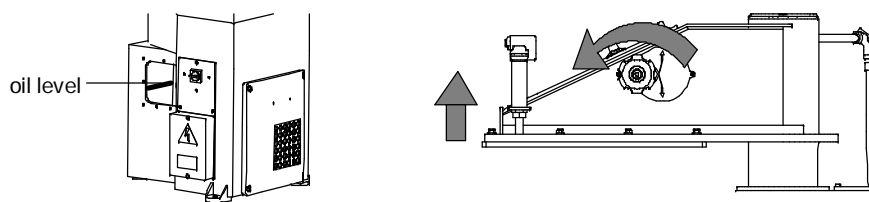

Fig. 8
- Fill in the oil till reaching the maximum level red line (Fig. 8).
- Switch on the motor through the main switch, and immediately check the pump rotation direction, as described in the previous paragraph. Turn the arm adjusting handwheel counter clockwise, till it stops: in this way the arm will move upward to its limit (Fig. 8).